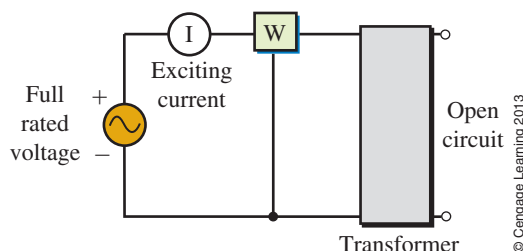

FIGURE 23-48 Open-circuit test. Measure from the LV side.
The setup for the open-circuit (OC) test is shown in Figure 23-48. Apply the full rated voltage. Since the load current is zero, only exciting current results. Since the exciting current is small, power loss in the winding resistance is negligible, and the wattmeter reading is essentially just core loss.